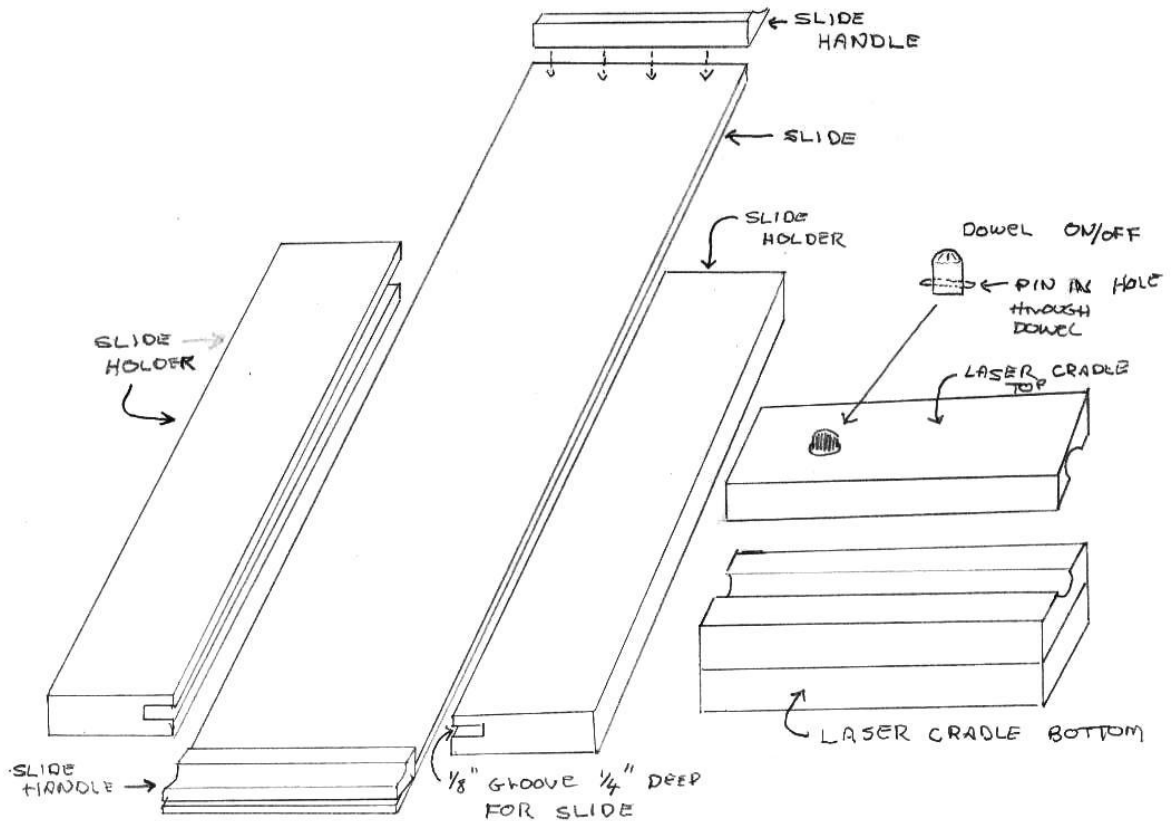

Fig 2
- 1 X 2 inch wood (we used hardwood, as that was what we had in the garage), for the slide base, the laser cradle and the slide handles. See Fig 2.
- 1/8 by 4 inch wood for the base of the prisms (plastic would probably work as well). See Fig 2.